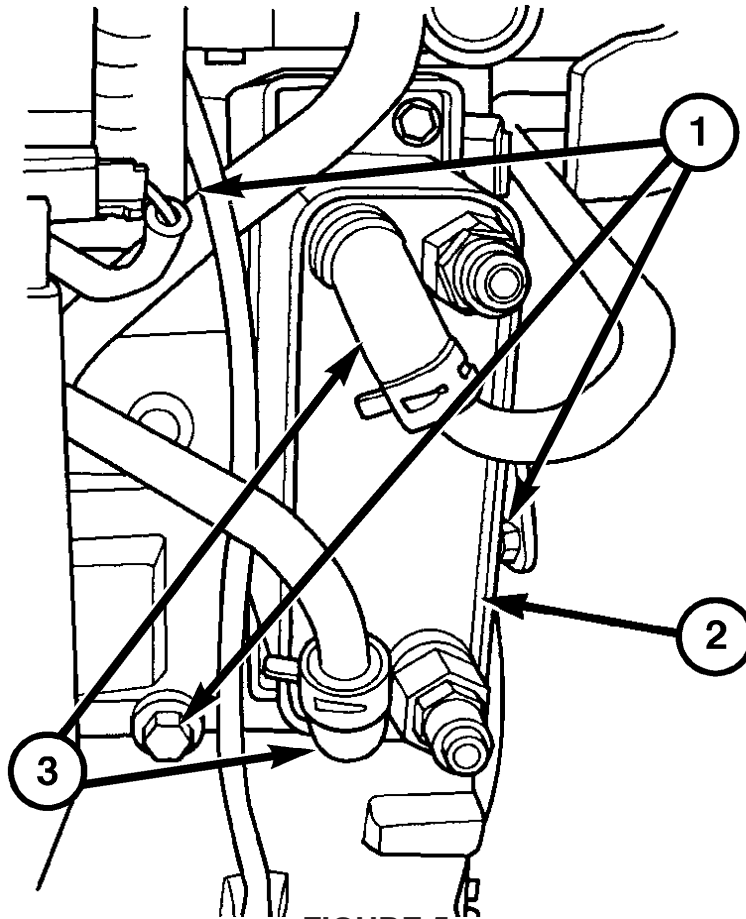

FIGURE 5
14. Disconnect the coolant inlet and outlet hoses from the engine-mounted transmission cooler (Figure 5).
16. Remove the three (3) transmission cooler bracket fasteners (Figure 5) and then remove the cooler and bracket from the engine as an assembly.
17. Install the new transmission cooler and bracket assembly (Figure 5). Hand start the three (3) mounting fasteners only.